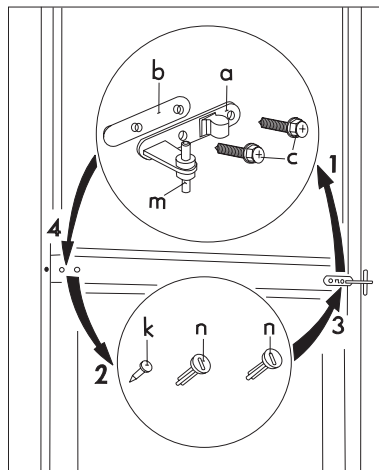

Fig. 3
- Remove double door mount (a, b, c) from the body of the appliance in steps. Please make sure the plastic spacer (b) under the door mount is also removed (Fig. 3).
- Remove the left-hand cover pin of the double door mount (3 pieces, n, k) and move to the other side (Fig. 3).
- Disassemble the door locking elements (u, v) by unscrewing the screw (s) (Fig. 3).
- Fit the pin of the double door mount (m) into the left-hand hole of the freezer door (Fig. 3).